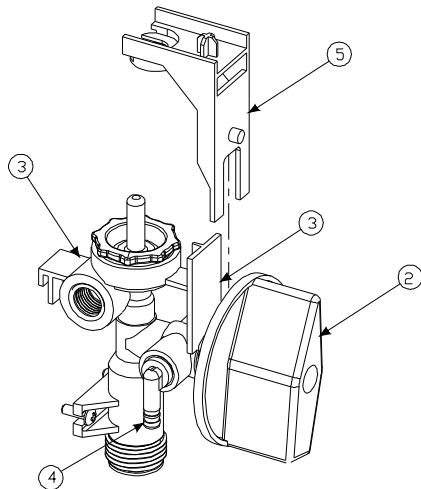

**Fig. 4**
4. **Align the holes in the Two Port Seal with the line on the side of the Valve Body (3) port as shown in Fig. 4.**